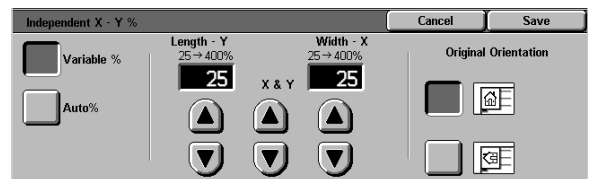

Figure 21: Variable% Reduce/Enlarge screen
- 3 Select the **Variable%** option, as in Figure 21. Perform one of the following: